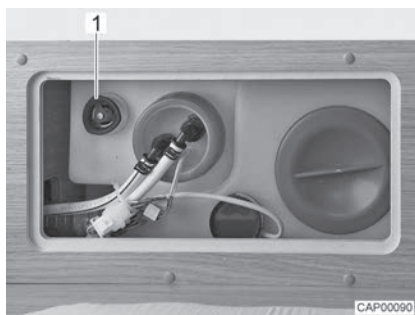

Fig. 109 Water tank with rotary handle
- Turn the rotary handle (Fig. 109,1) on the water tank in a clockwise direction as far as it will go.
- Turn the rotary handle (Fig. 109,1) on the water tank in an anticlockwise direction as far as it will go. Excess water will drain away leaving approx. 20 litres in the tank.